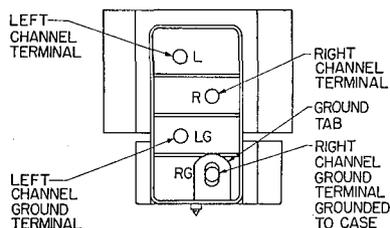

FIGURE 2
**CONNECTIONS:** Model M44 Series Cartridges utilize a 4-terminal arrangement for connections having a separate ground terminal for each channel. (See Figure 2).
**NOTE:** Before making any connections, refer to the arm or changer instructions to properly identify the right and left channel arm leads. **CAUTION:** Do not make any solder connections directly to the cartridge terminals, nor to the terminal pin jacks while they are attached to the cartridge terminals. Solder the leads to the pin jacks before slipping them over the terminals. If hum is experienced when cartridge is installed in a metal head shell, removal of the ground tab from the right ground terminal will probably correct the condition. (See Figure 2).